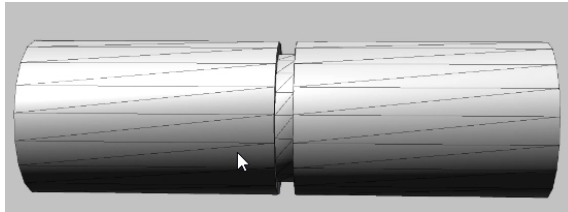

Figure 13
- 5) Creating a 3d bar model, Figure 13. In the code, this is the “Wood” class, the “getMesh3D” method.